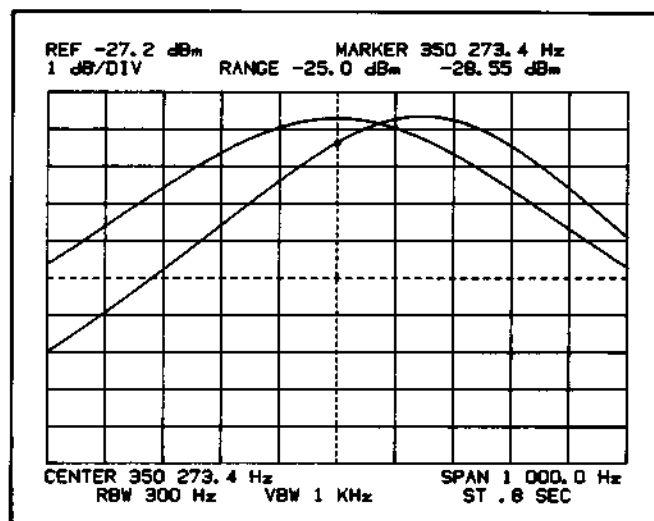

Figure 5-27. Off-Center IF Stage
c. Both the A and B traces should now be displayed as in Figure 5-27.